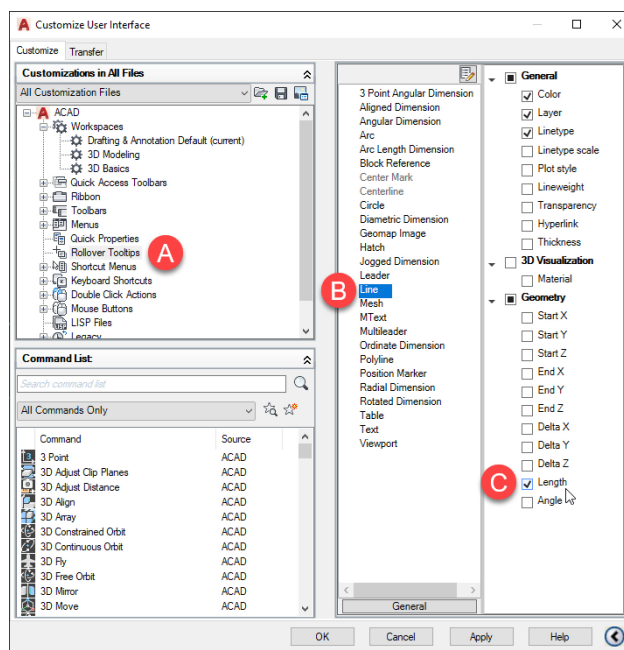

Figure 37: Modifying the Rollover Tooltip data for Lines in the Customize User Interface dialog box.
2. Choose Rollover Tooltips (a), the Object whose Tooltips you would like to modify (b), and finally the Object Property you would like to include (c) as shown in Figure 37.